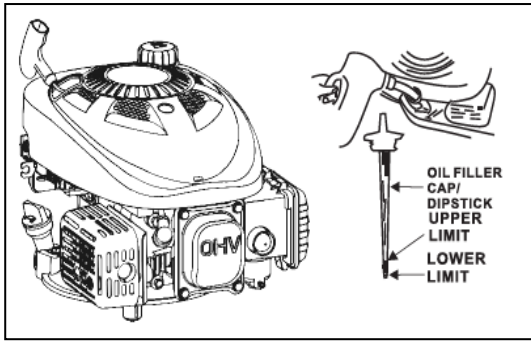

Fig. 9
5. Pour the recommended oil slowly into the oil fill. Do not overfill. After adding oil, wait for one minute and then check the oil lever by using dipstick. Oil lever should be between lower limit and upper limit (See Fig. 9).